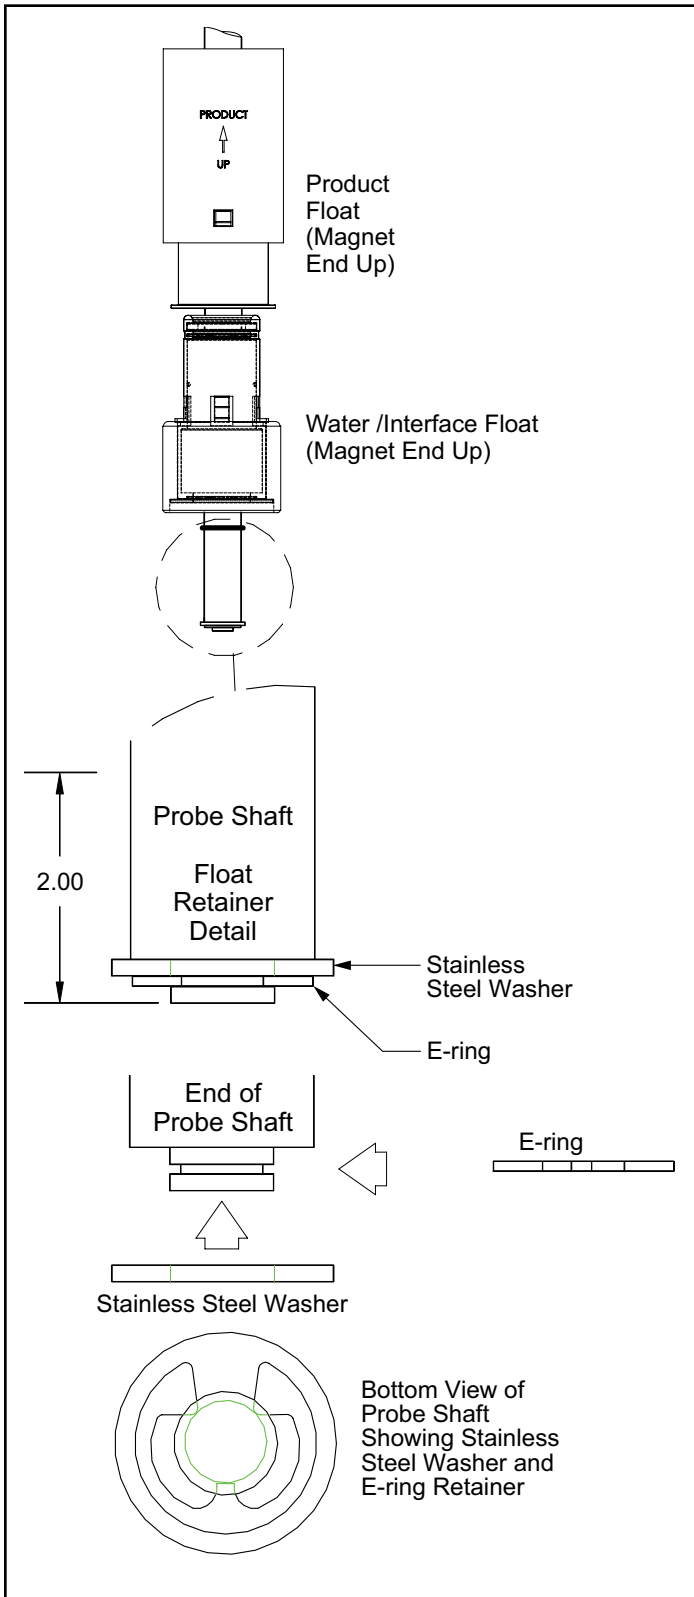

Figure 2: Float & Retainer Installation Detail
- Use a small flat bladed screwdriver to pry-off/remove the E-Ring from the bottom of the probe shaft, then remove the stainless steel float retainer washer. See Figure 2.
- Install the floats per Figure 2. Product float first (magnet end up) and then the water float (magnet end up).
- Install the stainless steel, “float retainer” washer at the bottom of the probe shaft. Slide the E-Ring into the groove below the stainless steel washer. See Figure 2.